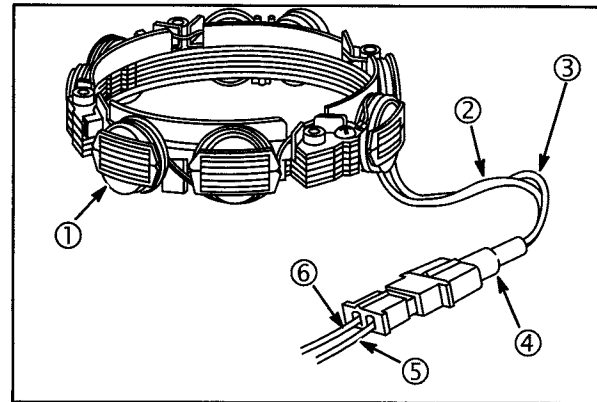

Fig. 15
1. Stator assembly (1), Fig. 15.
2. RED lead from stator (2), DC output for charging battery.
3. BLACK lead from stator (3), AC output for lighting circuit.
4. DIODE encased at connector (4).
5. WHITE lead (5) for AC lighting circuit.
6. RED lead (6) for DC charging circuit.